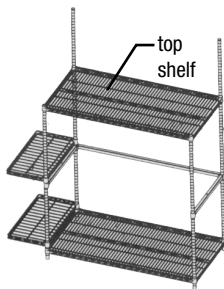

figure 5
- Slide shelf into slotted collars (see figure 5).